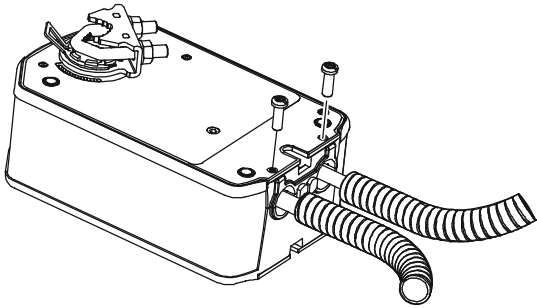

Figure 11: Adding Flexible Metal Conduit
2. Push the conduit into the holes in the actuator and secure it with the supplied 10-32x9/16 in. screws, as illustrated in Figure 11. The product label marks the position of holes for the screws. Drive the screws through the product label in the marked positions. Drive the screwhead flush with the plate to secure the conduit.